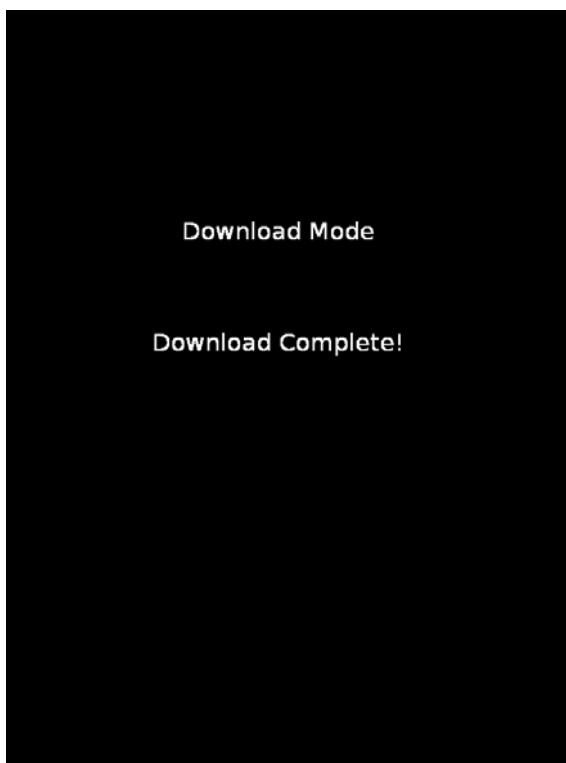

Figure 5-15: Download Complete Screen
2. When the software download is complete, the download complete screen appears (Figure 5-15).
2. At the touch screen diagnostics screen (Figure 5-15), touch the screen in multiple places to verify correct touch screen function.